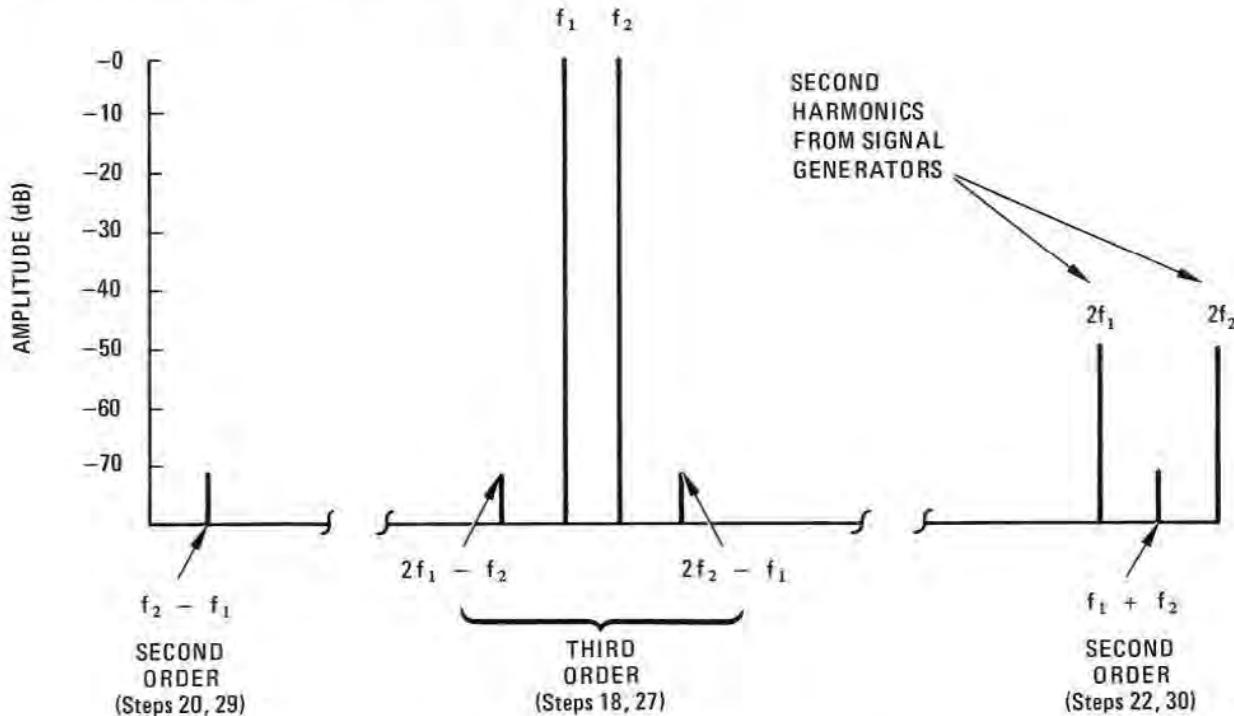

FIGURE 4-15. INTERMODULATION DISTORTION PRODUCTS
18. Reduce spectrum analyzer RESOLUTION BW to 3 kHz and check for third order intermodulation distortion products at approximately 3 divisions to either side of center graticule line (see NOTE below). They should be more than 70 dB below input signals (-100 dBm on spectrum analyzer display). (See Figure 4-15.)
20. Set spectrum analyzer TUNING to 1 MHz and momentarily press FREQUENCY CAL switch. Set RESOLUTION BW to 3 kHz and adjust VIDEO FILTER as necessary for more than 70 dB display range. Check for second order intermodulation distortion product ($f_2 - f_1$) near center of display (see NOTE, below). Second order intermodulation distortion product should be more than 70 dB below the total applied signal (-110 dBm on spectrum analyzer display). (See Figure 4-15.)
22. Check for second order intermodulation distortion product ($f_1 + f_2$) between $2f_1$ and $2f_2$ signals (see NOTE below). Set RESOLUTION BW to 3 kHz and adjust VIDEO FILTER as necessary for more than 70 dB display range. Second order intermodulation distortion product should be more than 70 dB below total applied signal (-110 dBm on spectrum analyzer display). (See Figure 4-15.)
29. Set spectrum analyzer TUNING to 1 MHz and momentarily press FREQUENCY CAL switch. Set RESOLUTION BW to 3 kHz and adjust VIDEO FILTER as necessary for more than 70 dB display range. Check for second order intermodulation distortion product ($f_2 - f_1$) near center of display (see NOTE below). Second order intermodulation distortion product should be more than 60 dB below total applied signal (-100 dBm on spectrum analyzer display). (See Figure 4-15.)
30. Set spectrum analyzer TUNING to 8 MHz and check for second order intermodulation distortion product ($f_1 + f_2$) between $2f_1$ and $2f_2$ signals. (See figure 4-15.) Second order intermodulation distortion product should be more than 60 dB below total applied signal (-100 dBm on spectrum analyzer display). (See NOTE above.)